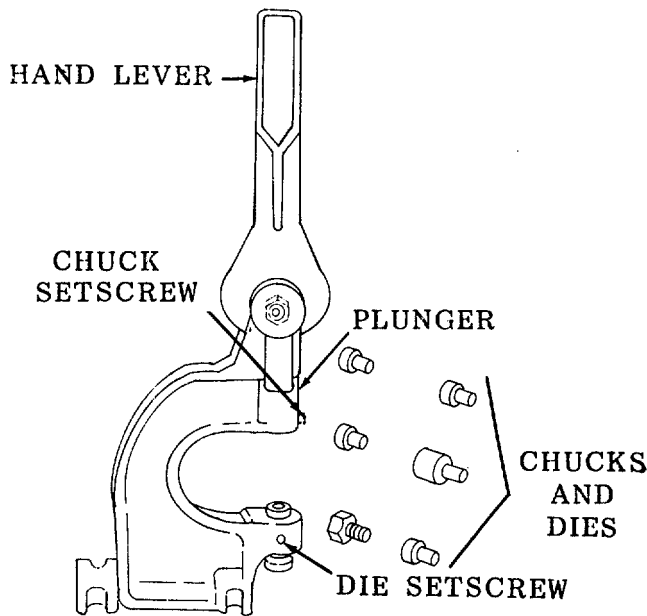

Figure 2-55. Chuck and Die, Installation.
- c. *Inserting Chucks and Dies (Refer to Figure 2-55).*